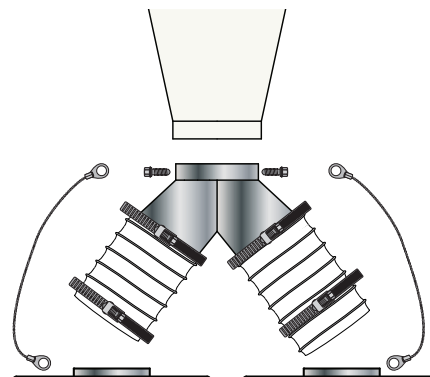

FIG. 20b
If you purchased the Dual Drum setup, ground the Drum (Y) by drilling a 5/16" hole in the bottom of each leg of the Pants Wye (Z) and on each Lid's Collared Inlet (X). Attach the 14" Grounding Cable with the included 3/8" self-tapping screws (F1) [FIG. 20b].